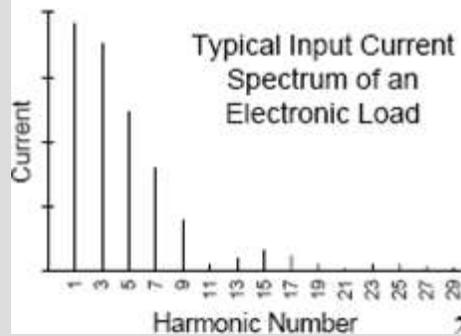

Fig 3: Typical harmonic spectrum for an electronic SMPS load
It is possible to use Fourier transforms, a mathematical process, to analyse this waveform and break it down into a set of sinusoidal components. These comprise the fundamental frequency - 50 Hz in Europe, 60 Hz in America - and a set of predominantly odd multiples of the fundamental, known as harmonics. The third harmonic is 150 (or 180) Hz, the fifth, 250 (300) Hz and so on. Fig. 3 shows a typical harmonic spectrum for an electronic SMPS load. The fundamental component is usefully consumed by the SMPS, while the harmonics are reactive and create the problems described above. The ratio of the fundamental amplitude to the sum of all the harmonic amplitudes gives the device's power factor.